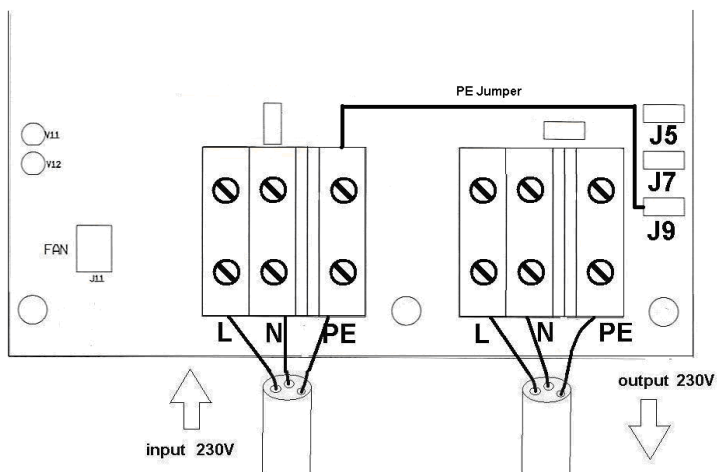

Figure 2: Input earth connection
## 2.2 Input earth connection (fig. 2)
- If the boat is on shore (winter period or maintenance), the PE conductor in the boat must be connected directly to the input PE, for safety reasons. This is achieved by connecting a PE jumper coming from the input PE terminal to male push-on connector J9 (jumper shown in black in fig. 2). This jumper is provided with the transformer.